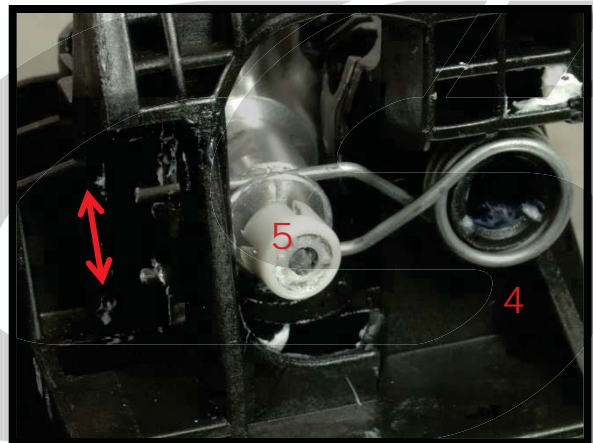

Figure 3d
d) Guide the Side Action Spring (4) through the groove in the shifter and the holes in the back of in the shifter housing (as shown in Figure 3d).
e) Lubricate and snap the Ball Stud Plastic Cap (5) onto the shifter ball stud (as shown in Figure 3d).